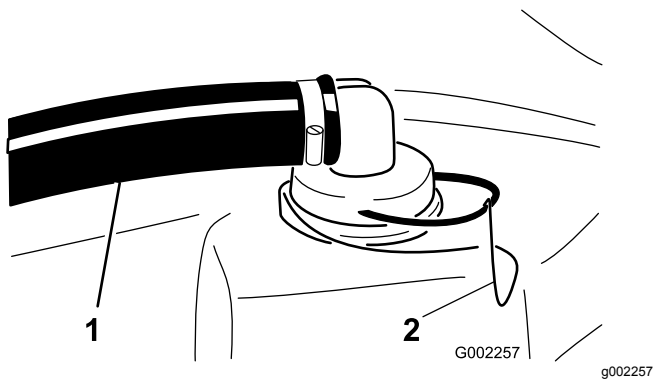

Figure 16
2. At the top of the sprayer tank, remove the retainer that secures the hose fitting attached to the large hose and the strainer housing (Figure 16).
3. Remove the hose and hose fitting from the strainer housing (Figure 16).